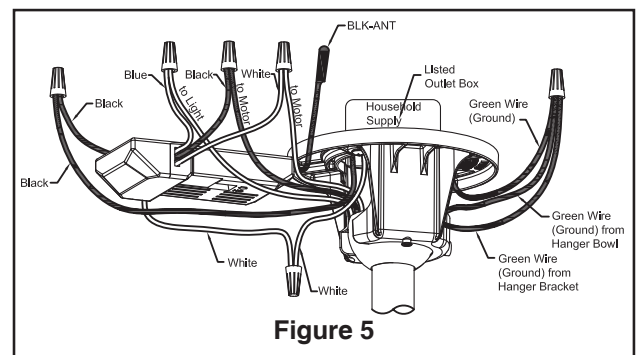

Figure 5
- ☐ 4. Connect green wires from hanger bracket and hanger ball to bare (ground) wire using wire connector supplied. Connect black wire from receiver unit marked "AC IN L" to black supply wire using wire connector supplied. Connect white wire from receiver unit marked "AC IN N" to white supply wire using wire connector supplied. Connect white wire from receiver unit marked "TO MOTOR N" to white wire from fan using wire connector supplied with receiver. Connect black wire from receiver unit marked "TO MOTOR L" to black wire from fan using wire connector supplied. Lastly, connect blue wire from receiver to the blue fan light wire using wire connector supplied. Position all connected wires and receiver antenna to allow installation of ceiling canopy (Figure 5).
- ☐ 5. After splicing and making the wire connections, the wires should be spread apart and turned upward with the grounded conductor and the equipment-grounding conductor on one side of the outlet box and the ungrounded conductor on the other side of the outlet box. (Figure 5)